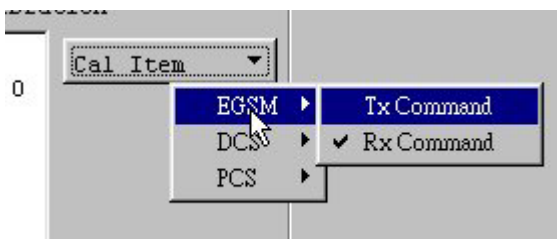

Fig.6.4 To select desired command
4. Select TX command or RX command on desire band by clicking on the Cal\_Item button as figure6.4.